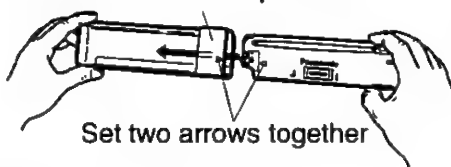

Fig.3
- ④ As shown in Fig.3, insert the removable face plate with the arrow pointing toward the removable face plate case until you hear a "click". Keep the removable face plate in the case. Then, you can bring the plate safety.
③ Removable face plate case